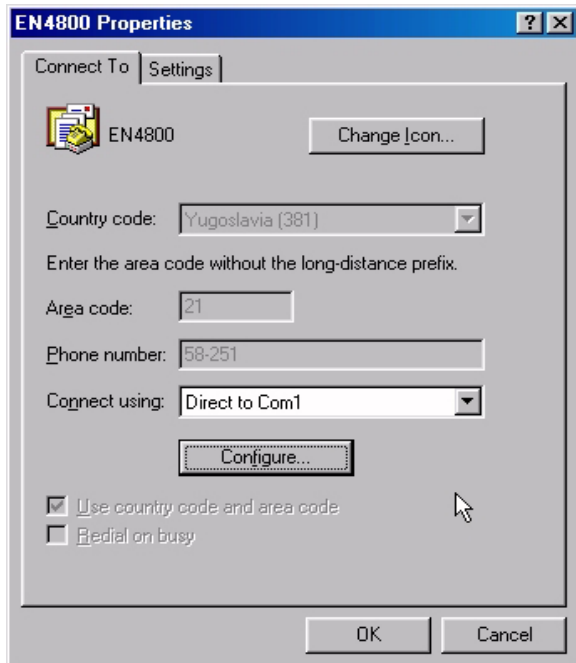
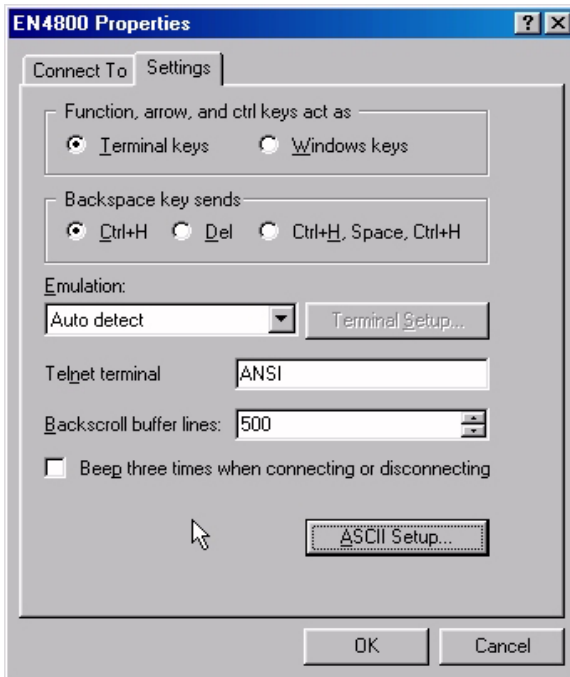

Figure 3-3. *Serial COM port selection*
Figure 3-5. COM port settings
2. Select serial communication port; COM1 is selected in the example, shown in Figure 3-3.
- Click on the Settings tab (from Figure 3-3 or select Properties and then click on Settings) and adjust ASCII settings as shown in Figures 3-5 and 3-6.